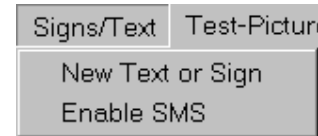
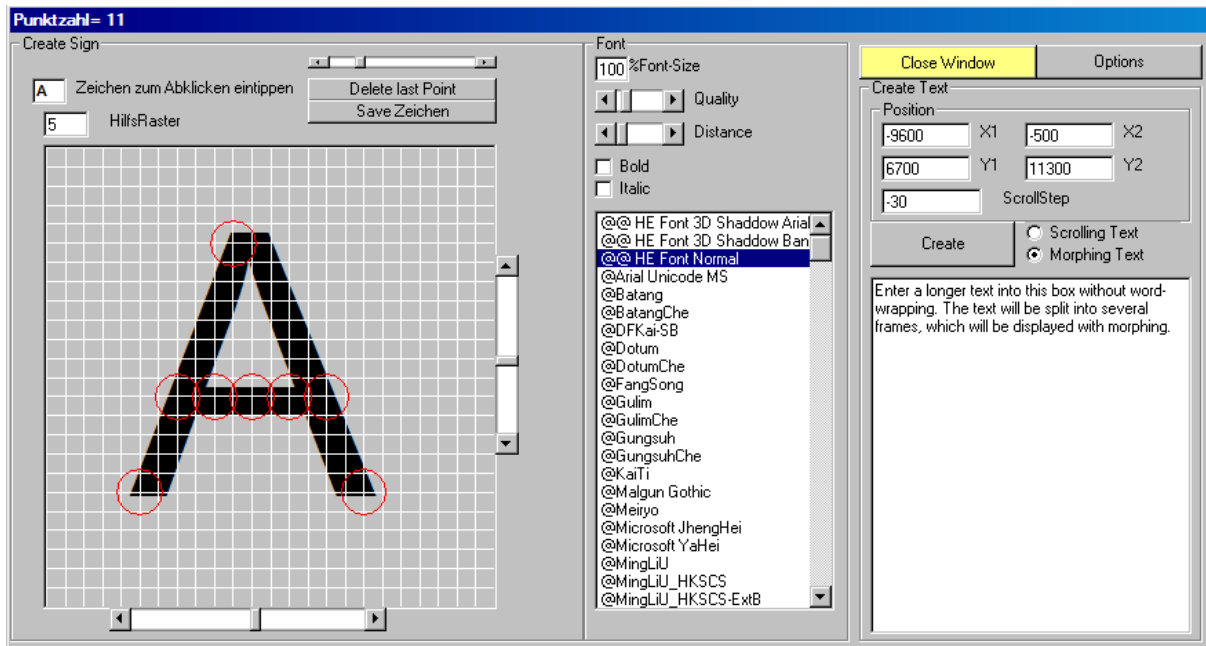

Fig.67: Figure Editor: Menu Signs/Text.
Fig.68: Figure Editor: Menu Signs/Text. Window to create letters and signs and to enter texts.
With the help of the menu item Signs/Text (Fig.67) you will open a dialog (Fig.68) to create your own signs and letters (A) and/or to display longer text passages (B) with the laser projector.
IMPORTANT! The start and the end of the letter or sign have to be blanked points. Otherwise you will see colored connecting lines later on. The software can do this (see red circles in Fig.68) but to be certain set the blanked point again (right mouse button). The advantage of these self-made letters is their lower complexity and thus a laser output with less flickering is achieved. Furthermore, “special” signs can be created and then be used within the Figure Editor. A tip: Wingdings has some signs which could be useful for a graphic show.